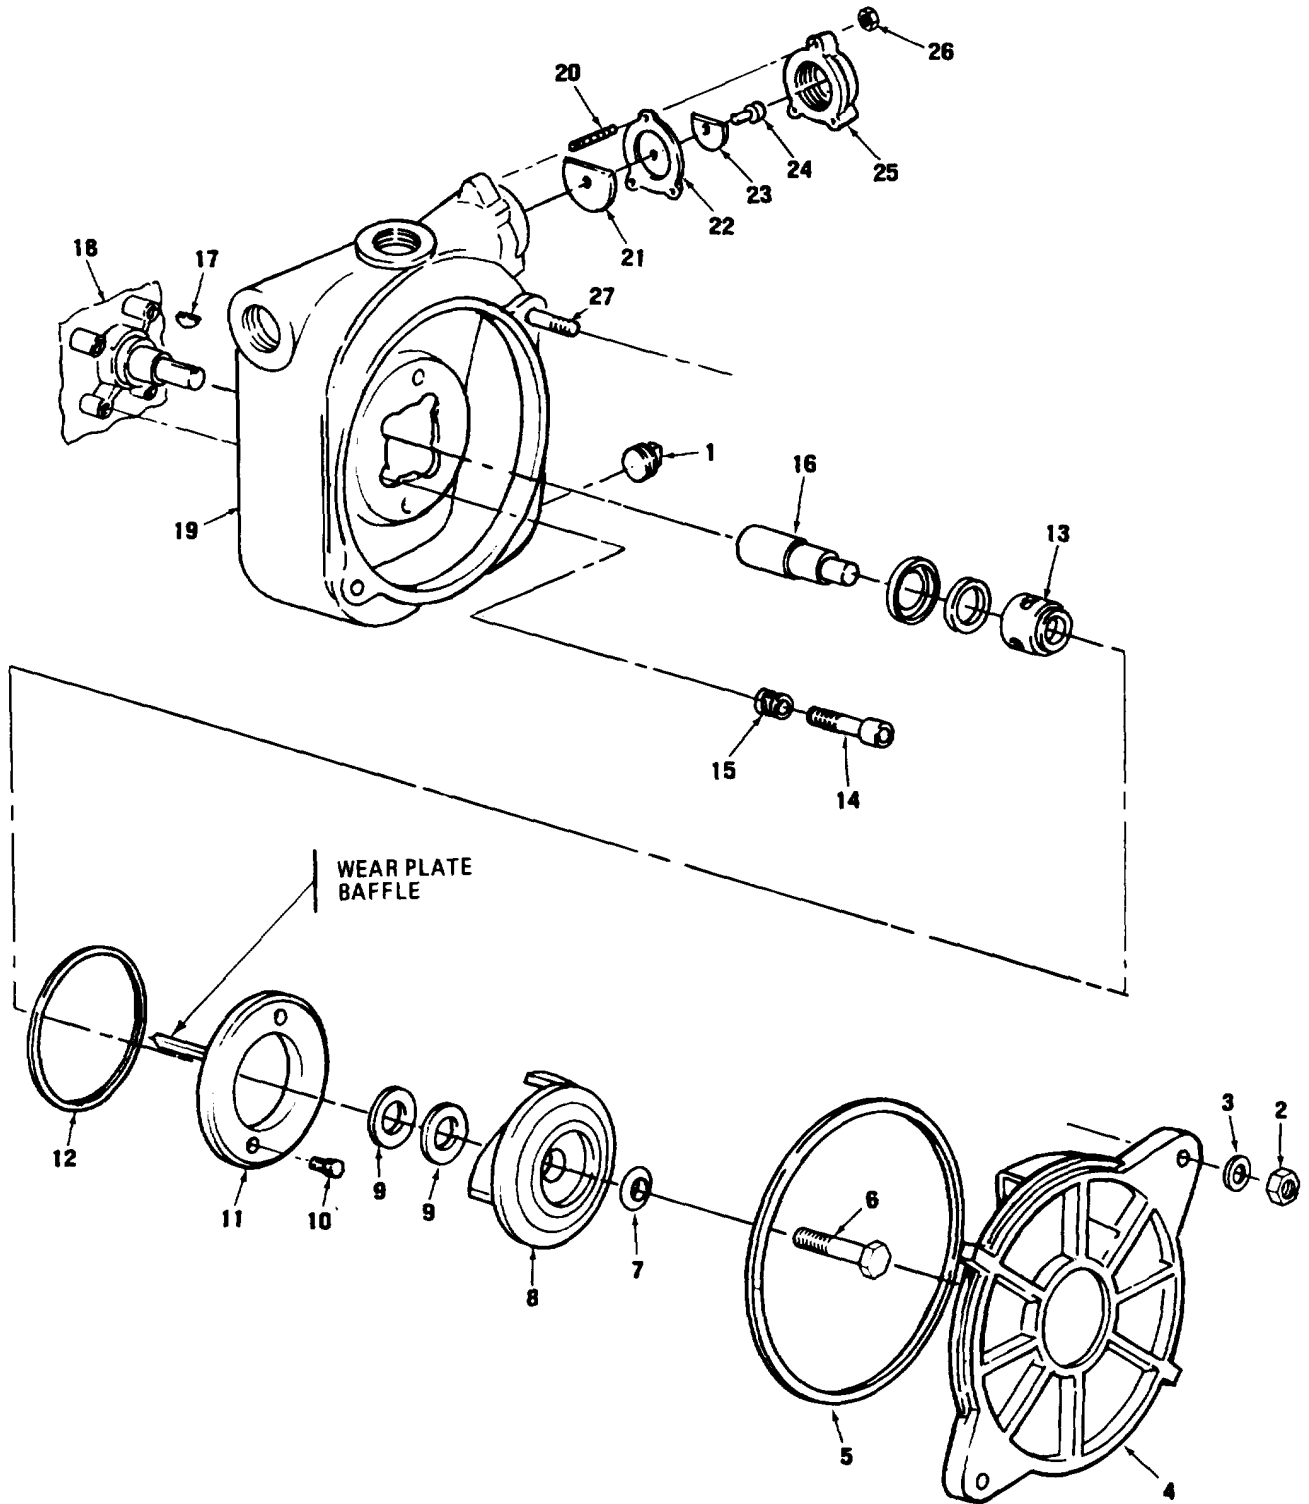

Figure 5-1. Centrifugal Pump and Check Valve.
- a. Removal and Disassembly. (figure 5-1.)
- (1) Remove pump drain plug (1) and drain into suitable container.
- (2) Remove nuts (2) and washers (3) and remove volute (4) and O-Ring(5).
- (3) Remove center screw (6) and seal (7).
- (4) Remove impeller (8) by unscrewing counterclockwise while holding shaft stationary. (on EMD units, hold armature shaft stationary with screwdriver in slot)
- (5) Remove shims (9) screws (10) and wear plate (11).
- (6) Remove O-Ring packing (12) and seal assembly (13).
- (7) Extract four screws (14) and compression inserts (15), remove pump from engine.
- (8) Remove adapter shaft (16) and Woodruff key (17) from engine shaft (18).
- (9) Remove nuts (26), suction flange (25), screw (24), small weight (23), gasket (22), large weight (21) and studs (20) and (27) from pump case (19).
c. Assembly and Installation (figure 5-1).
- (1) Attach studs (20) and (27) to pump case.
- (2) Install large weight (21), gasket (22), small weight (23), screw (24), suction flange (25) and nuts (26).
(5) Lubricate and install O-Ring packing (12, figure 5-1) onto wear plate (11) (Item 3, App E).
(6) install wear plate (11) and screws (10). (inspect for bent or defective baffle on back side of wear plate).
(7) install shims (9) as required to maintain impeller-to-wear plate clearance at 0.010 to 0.015 inch (0.025 to 0.038 CM).
(8) Install impeller (8) new retaining packing (7) and center screw (6).
(9) Lubricate and install O-Ring (5), volute (4) and fasten with washer (3) and nut (2) (item 10, App E).
(10) Connect inlet elbow, discharge elbow, and priming port.
(11) Install pump drain plug (1).